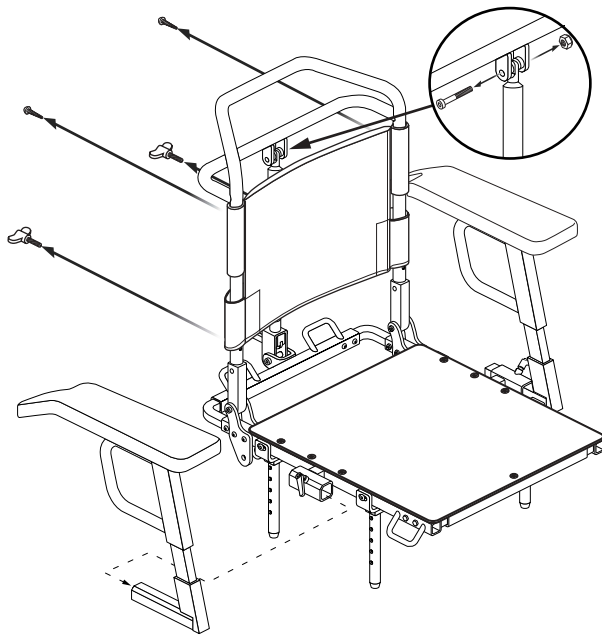

Figure 9. Slingback Removal
2. Remove the Phillips pan head screws that secure the slingback to the back canes. See figure 9.
3. Remove the shoulder bolt, nylon spacers, and Nylock nut from the top of the actuator. See figure 9.